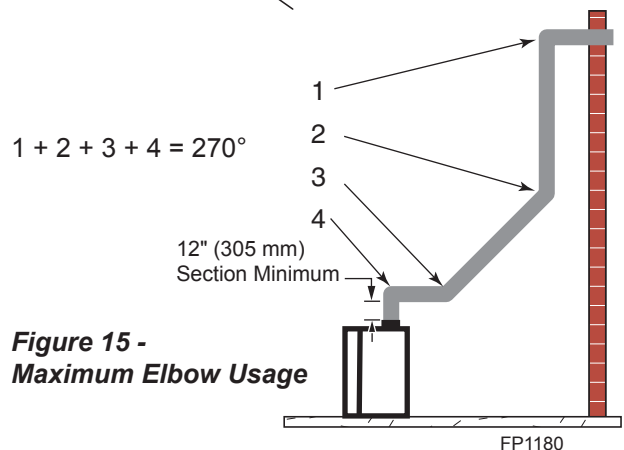

Figure 15 - Maximum Elbow Usage
In *Figure 15*, dimension A plus B must not be greater than 17' (5.2 m)
- The maximum number of 45° elbows permitted per installation is six (6). These elbows can be installed in either the vertical or horizontal run.
- The maximum number of elbow degrees in a system is 270°. *Figure 15*